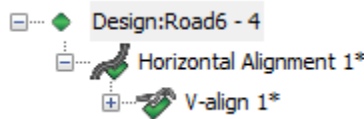

Figure 10-3: Project Explorer organization tree showing the project's design, horizontal alignment, and vertical alignment.
- Click the  button next to *Horizontal Alignment 1** to view the vertical alignment(s) associated with the parent Horizontal Alignment (as shown in Figure 10-3 below).
- Click the  button next to *V-align 1** to expose the *Constraints*, *Borrow/Waste*, and *Results* levels of the tree (as shown in Figure 10-3 above).